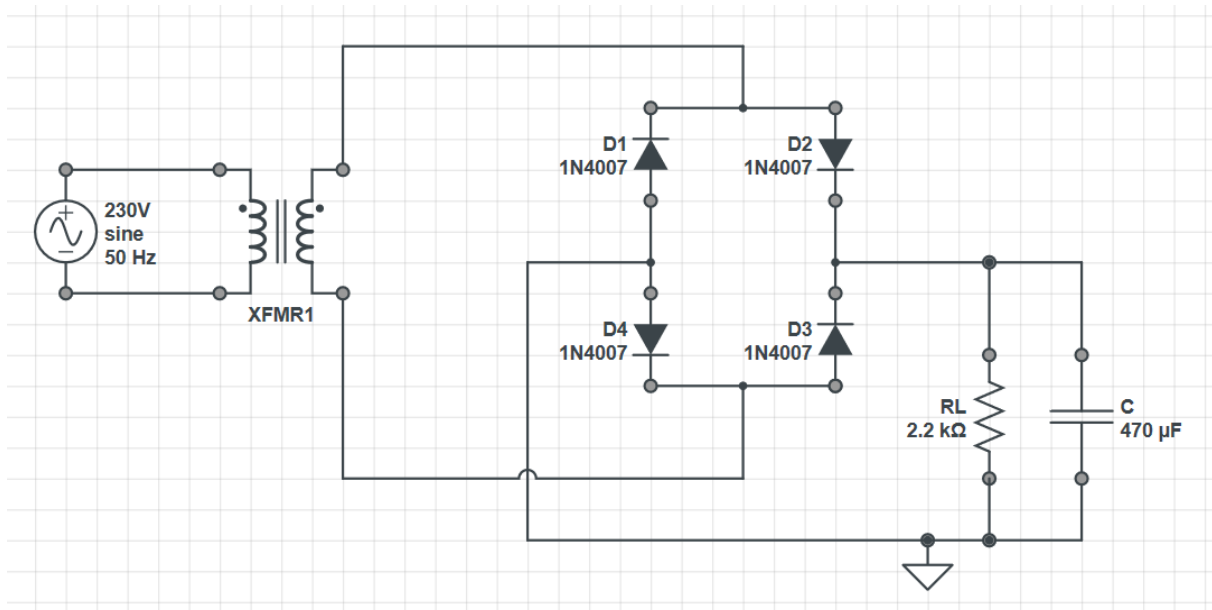

Figure-4: Full wave Rectifier with Filter
1. Connect the capacitor filter across the load as shown in Figure-4.